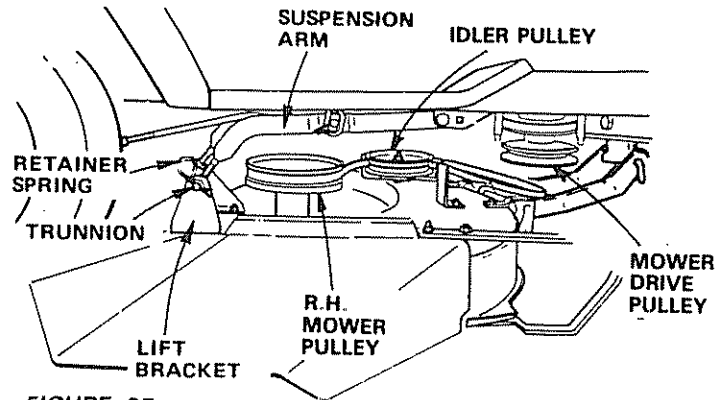

FIGURE 27
- e. Slide trunnions through lift brackets holes and secure with retainer spring (Fig.27).
- f. With belt routed around R.H. mower pulley and idler pulley, roll belt over mower drive pulley (Fig.27). Drive schematic decal on mower housing.